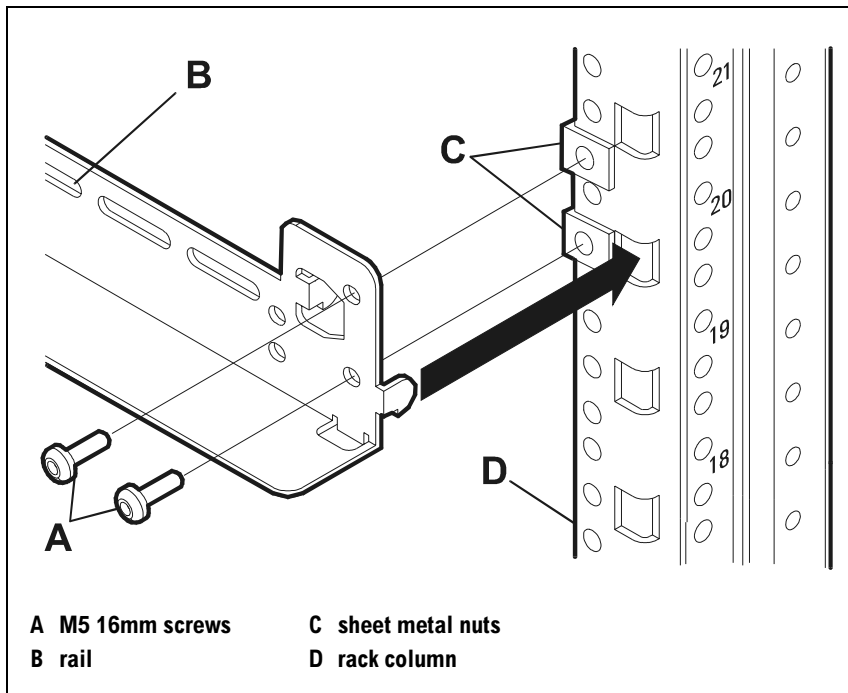

Figure 24 Rail Assembly – HP Rack Systems/E
3. Install sheet metal nuts (C in Figure 24) on all four columns as follows:
4. Insert two screws (A in Figure 24) through each rail end and prepared rack column. Use a Torx T25 screwdriver to tighten the screws securely.